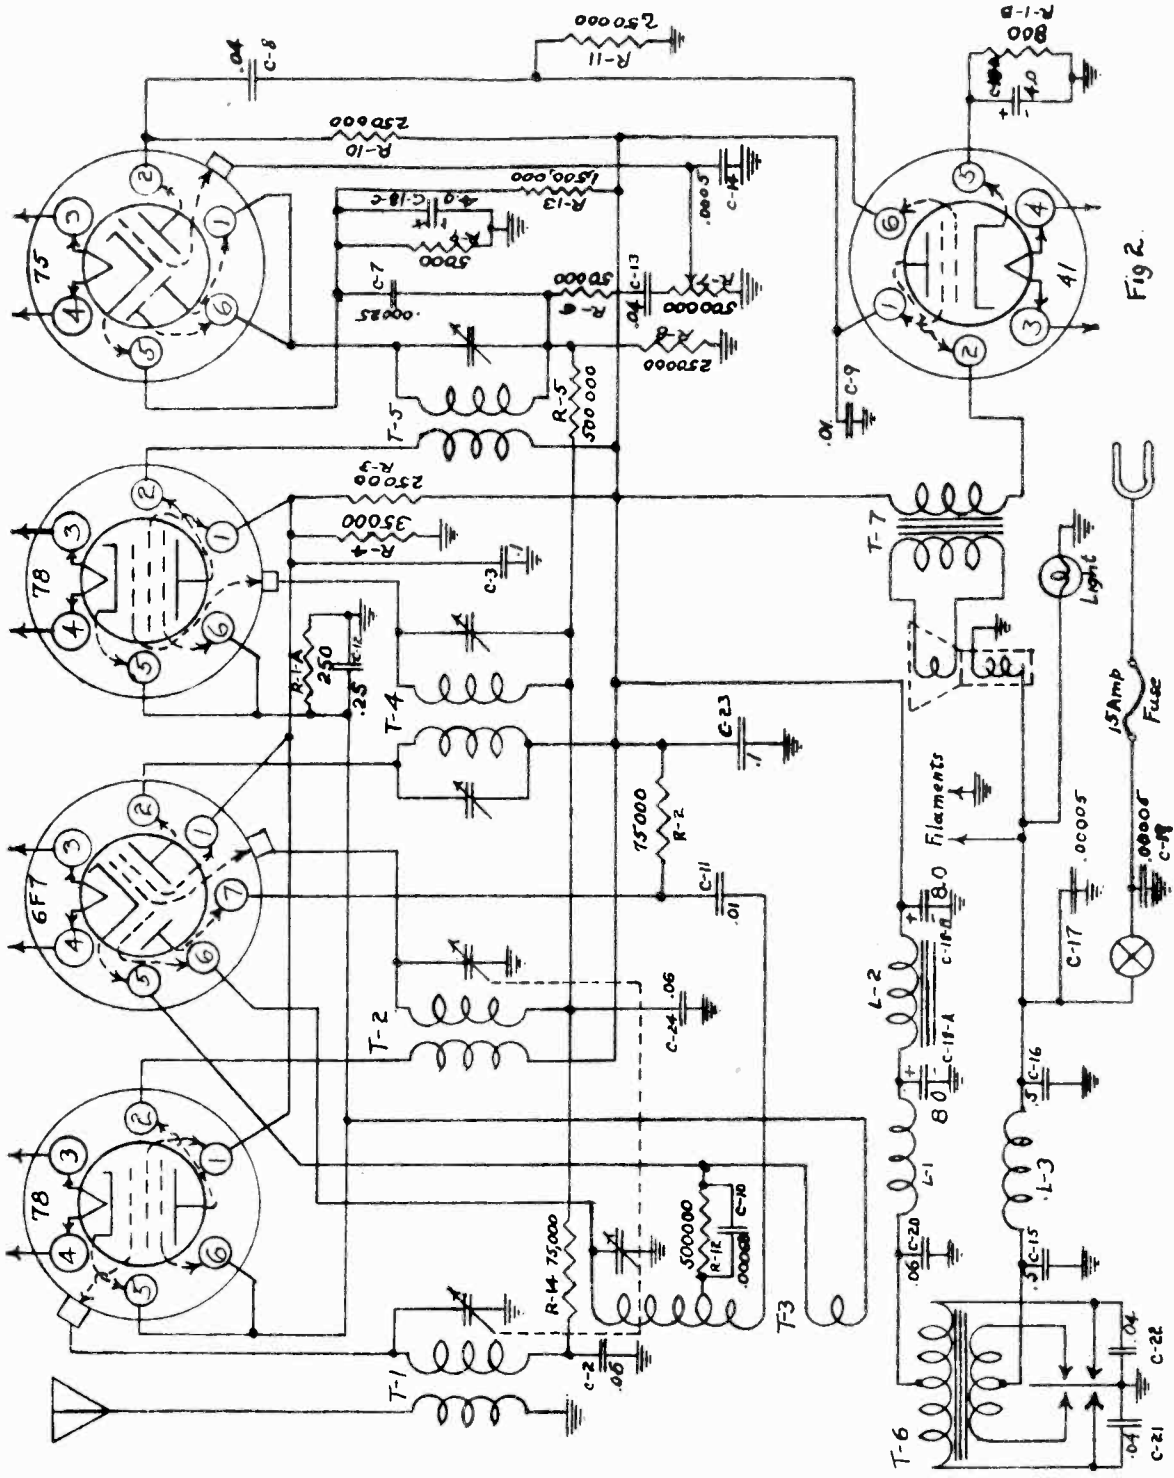

Fig. 2 CHEV. 600153 CIRCUIT DIAGRAM
- (d) Peak each of the trimmers on the 2nd I-F coil, Illus. #18 on Fig. 2.
- (e) Peak each of the trimmers on the 1st I-F coil, Illus. #17 on Fig. 2.
(d) Adjust the trimmer condenser for the oscillator section (middle section) of the gang condenser CAREFULLY for maximum output. Then adjust the trimmers for the "R.F." and "ANT" sections of the gang condenser. (See Fig. 2)
A number of .05 mfd. tubular condensers were used at the factory in place of the .06 mfd. condenser part #1209213 condenser shown on figure 2 as illustration #33. For Service Replacement purposes of any defective .05 mfd. condensers--use part #1209213 condenser.